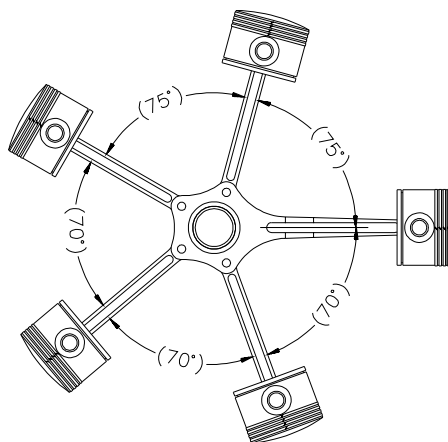

Figure 11-49 Assembly structure
4. Using the assembly mates assemble the subassembly with the master assembly. Refer to Figure 11-49, which shows you the assembly structure that will help you in assembling the instances of the subassembly.